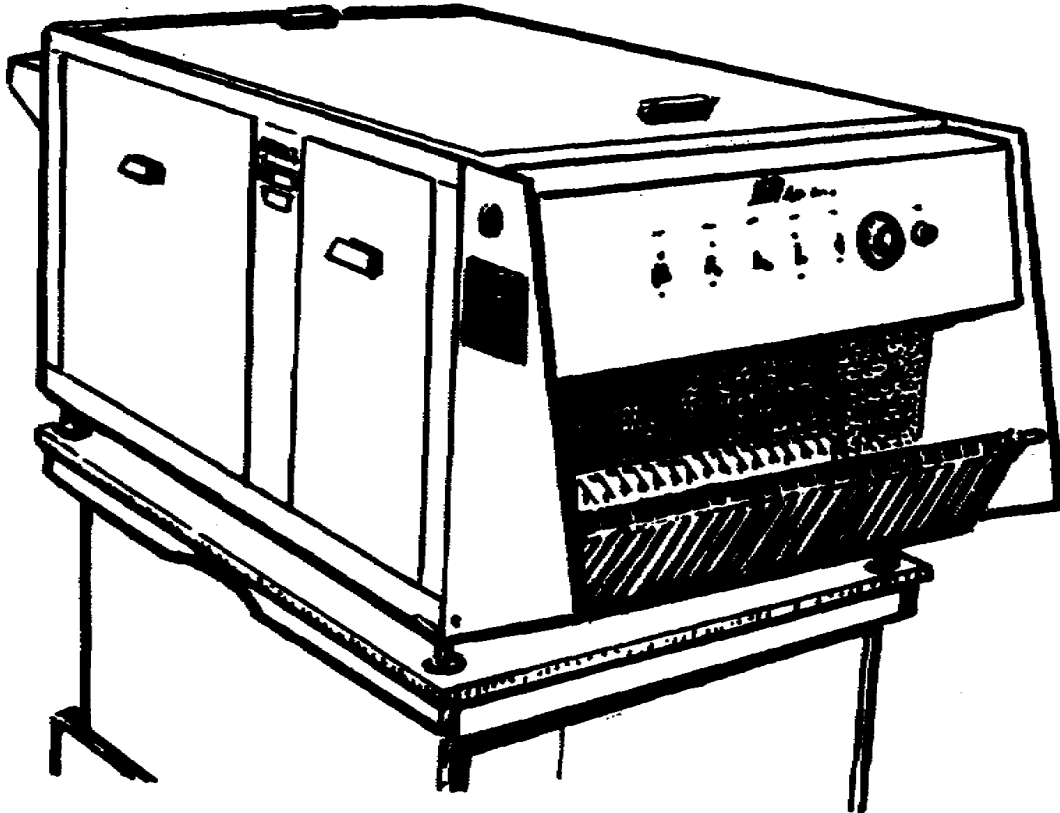

Figure 1-2. Kreonite Krematic processor
5. Figure 1-2 illustrates a Kreonite Krematic 16-inch tabletop processor. It can be set up to process color paper or black and white paper using normal color and black and white chemistry.